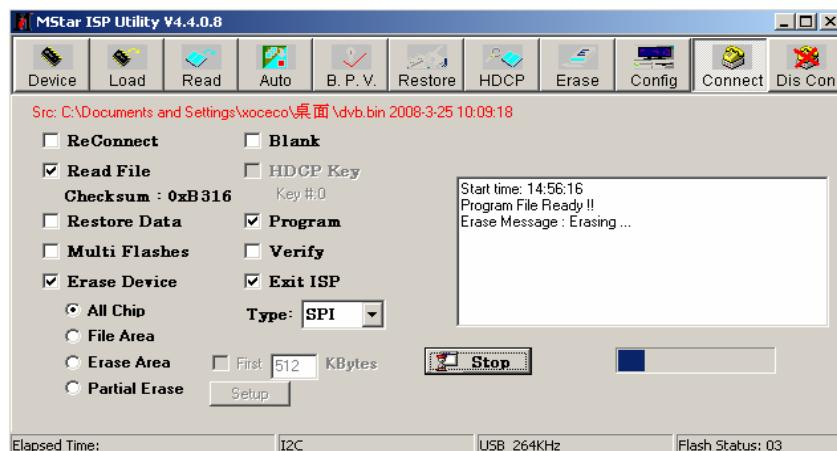

Fig. 5 Burning Configuration
- 5) Select menu “Auto”, then select items “All chip”, “program” and other configuration as **Fig. 5**